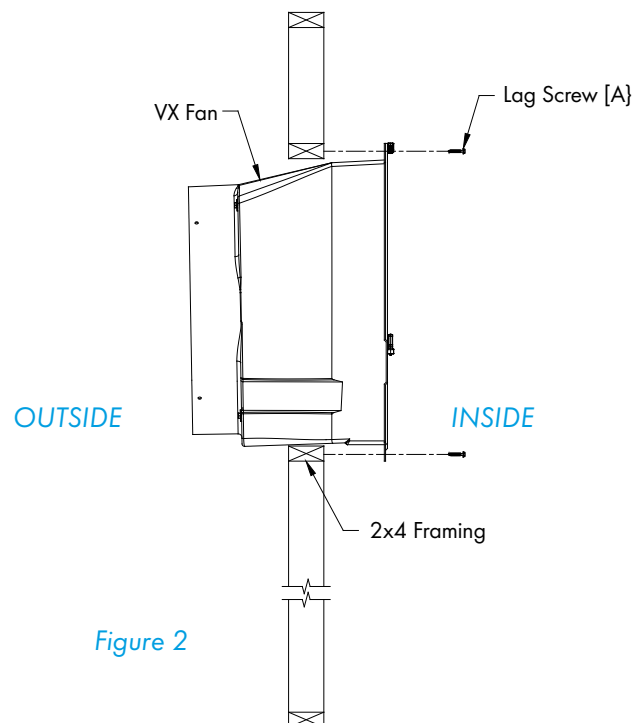

Figure 2
Insert fan into framed opening from inside and fasten in place using (8) Lag Screws [A]. Flash and caulk around opening. *See Figure 2.*